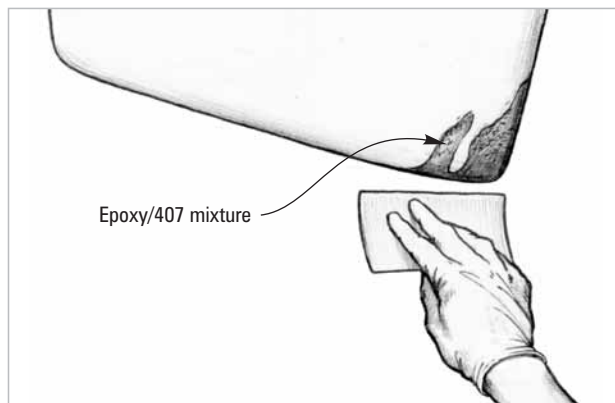

Figure 8-4 Trowel the epoxy/407 mixture into the voids and shape it to match the form of the keel.
6. Fill the voids with an 105 Epoxy/407 low-density filler mixture thickened to a peanut butter consistency. Trowel the mixture into the voids and shape it to match the form of the keel (*Figure 8-4*). If the volume of a void is larger than a golf ball, apply the mixture in several applications to avoid excessive exothermic heat buildup. Allow the mixture to cure thoroughly.